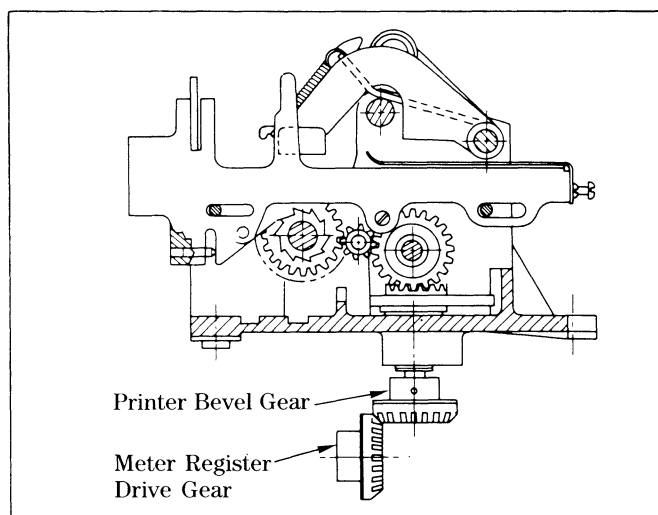

Figure 20. Ticket Printer/Meter Register Backlash Adjustment.
9. Install the ticket printer on the meter register with four 1/4 inch lockwashers and four 1/4-28 x 3/4 inch hex socket head cap screws. Loosen the printer bevel gear set screw and adjust for proper backlash between the printer bevel gear and the meter register drive gear as necessary (Figure 20).